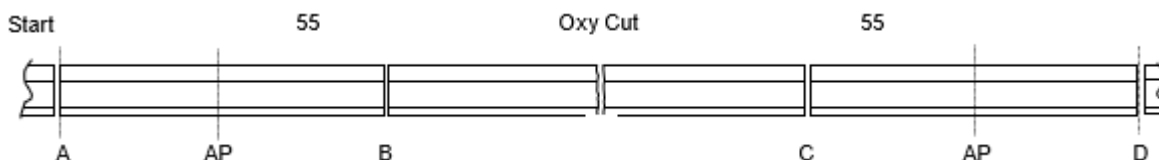

Figure 12 - Oxy cut adjustment point
5. Oxy cut the rail midway between joints “B” and “C” - this will be the adjustment point. (See Figure 12)